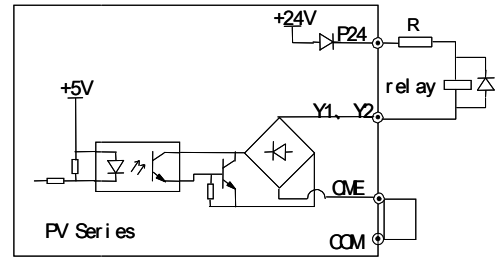
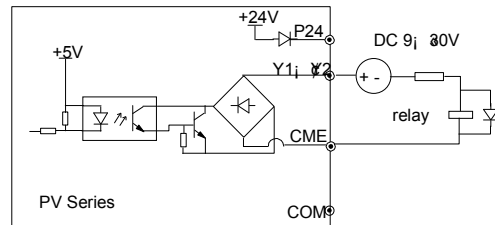

Fig. 3-27 Wire connections 1 of multi-function output terminal
Fig. 3-28 Wire connections 2 of multi-function output terminal
① Multi-function output terminals Y1 and Y2 can use the 24V power supply inside the drive and the wiring mode is shown in Fig. 3-27.
② Multi-function output terminals Y1 and Y2 can also use the 9~30V power supply outside the drive and the wiring mode is shown in Fig.3-28.
5. The resistors R in Fig. 3-27 and Fig.3-28 should be removed for 24V input relays, and the resistance of R should be selected according the parameters of relay, for non-24V relay.